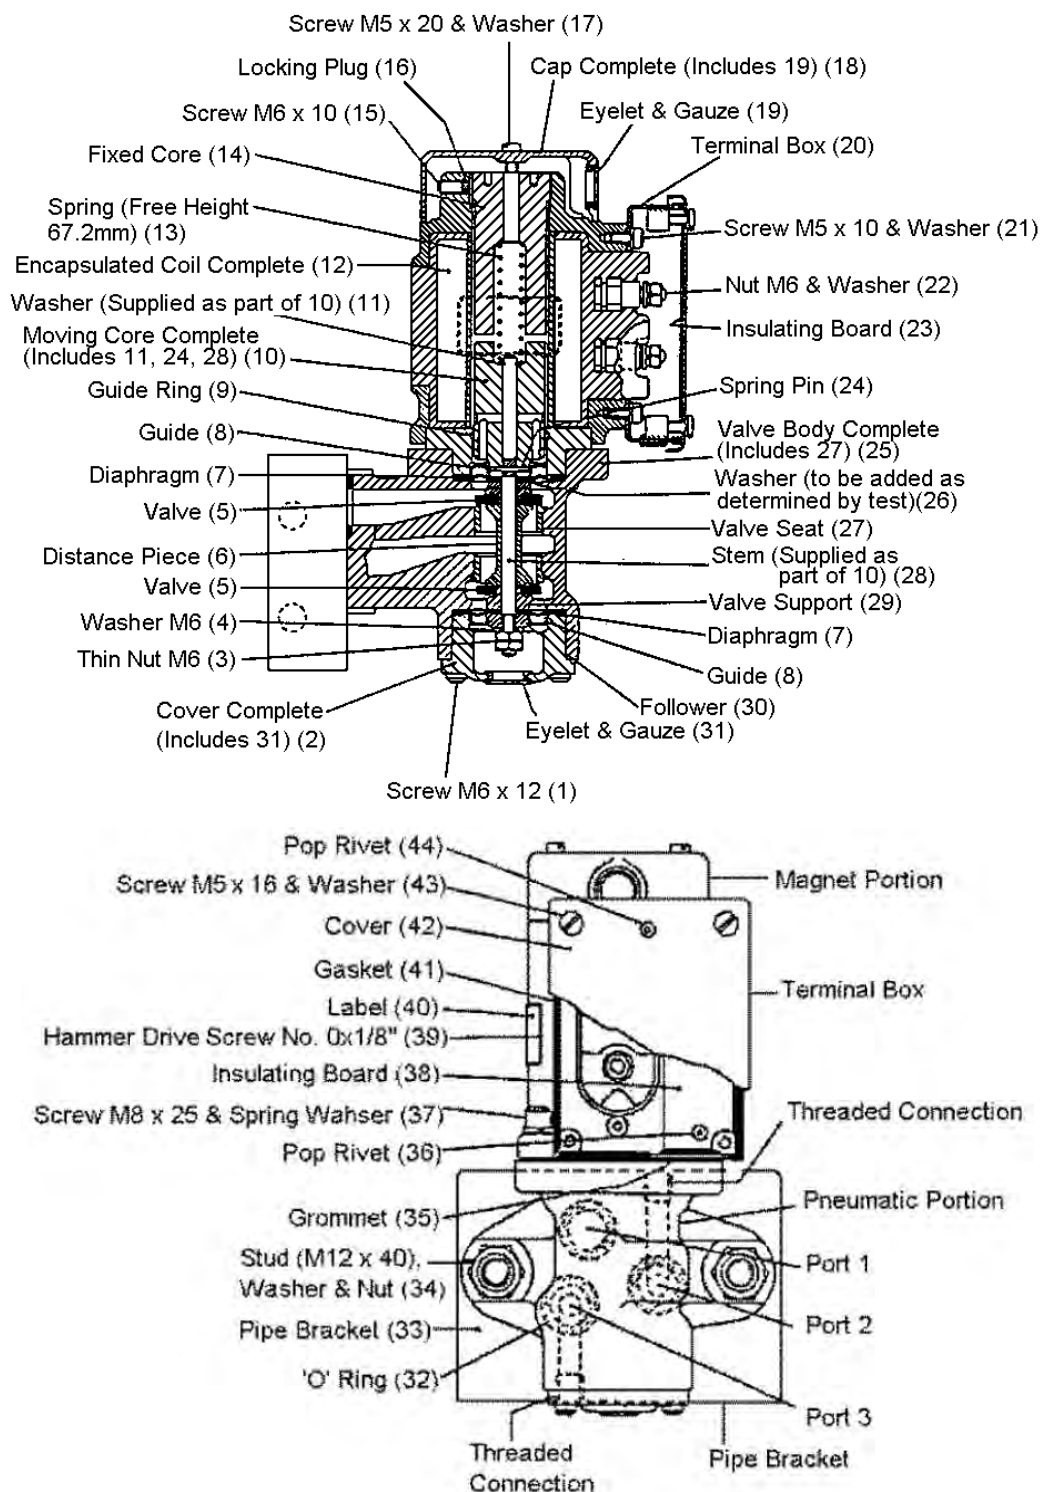

Figure 6: Direct Acting Magnet Valve
2. Dismantle the magnet valve as follows: (see Figure 6).
- 6.3 Check that the guides (8) and diaphragms (7) are assembled with their beads the correct way up, (see Figure 6). There are bead grooves in the magnet body and the bottom cover to accommodate them.